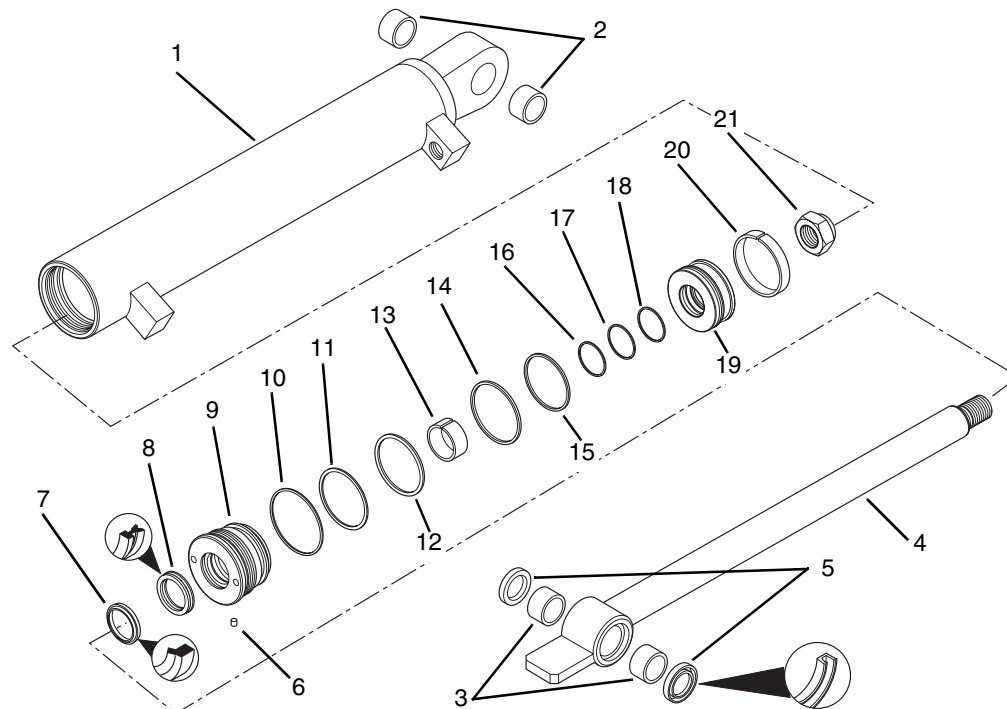

Figure 4-51 Attachment Tilt Cylinder Components
1. Replace rod wiper (Fig. 4-51, 7), deep Z seal (8), back-up ring (11), o-ring (10), back-up rings (16 & 18), o-ring (17), and wear band (20) with new seals. Lubricate new seals with clean hydraulic system oil before assembly.
8. Replace bushings (Fig. 4-51, 2 & 3) if they are worn or damaged. The cylinder bushings are glued in place with Loctite, Black Max 380 Adhesive (Refer to Section 4.9.3 c, Step 5). Remove the bushings and seals as follows:
- d. Install new bushing seals (Fig. 4-51, 5) in rod end trunnion as shown with the seal side out.
1. Coat gland head (Fig. 4-51, 9) with a light film of clean oil and install deep Z seal (8), and rod wiper (7) and wear band (13) into gland head (9) as shown. Install o-ring (10), back-up ring (11), and o-ring (12) onto the gland head (9).
2. Coat piston (Fig. 4-51, 19) with a light film of clean oil and install back-up rings (16 & 18) and o-ring (17) into piston. Install square piston seal (15), square ring (14), and wear band (20) onto piston.
3. Coat rod (Fig. 4-51, 4) and gland head (9) with a light film of clean oil. Slide gland head (9) onto the rod.
4. Coat piston (Fig. 4-51, 19) with a light film of clean oil and carefully slide piston onto threaded part of rod. Be careful not to damage the back-up rings (16 & 18) and o-ring (17) when sliding the piston over threads of the rod.
5. Install locknut (Fig. 4-51, 21) and torque to 350-400 lb/ft (475-542 Nm).
6. Apply a compression sleeve or other suitable tool to piston and gland in order to compress seals and o-rings while inserting into the barrel assembly (Fig. 4-51, 1).
8. Using an appropriate pin spanner wrench, tighten the gland head (Fig. 4-51, 9) onto barrel, and install the locking insert (6). Torque the gland head to 250-300 lb/ft (339-407 Nm).